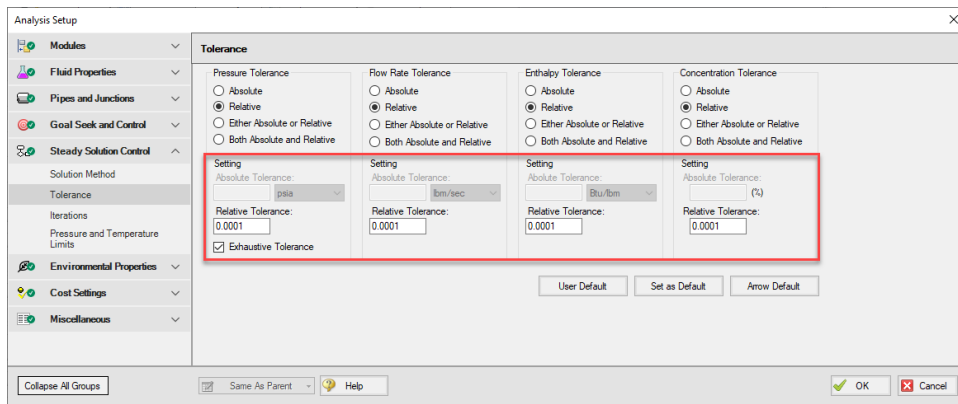

Figure 3: Reducing tolerance criteria may resolve goal seeking difficulties
- **Changing tolerance in Steady Solution Control Group >Tolerance panel-** By default AFT Arrow uses Relative Tolerance criteria set to 0.0001 (see Figure 3). Goal seeking convergence can sometimes be improved by reducing these values to 0.00001 or 0.000001.